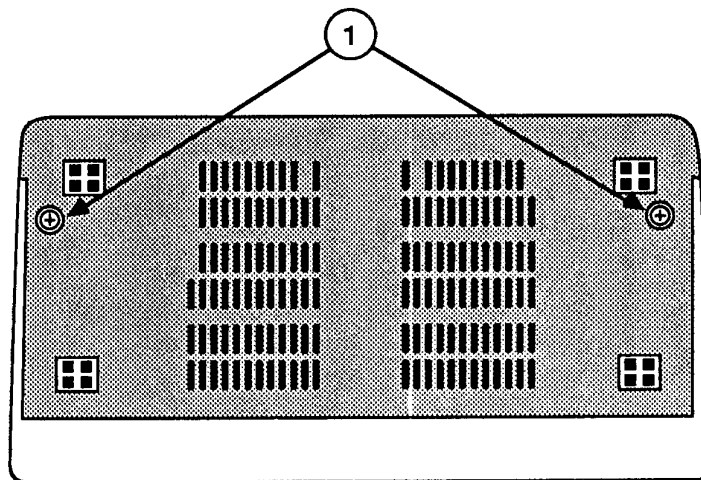

FIGURE 2
3. Remove the two Phillips screws (Figure 2, #1) located on the bottom of the monitor case.